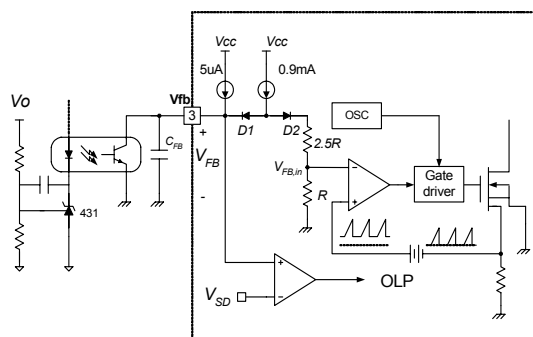

Figure 5. Pulse Width Modulation (PWM) Circuit
2. Feedback Control : The FSDM0265RNB employs current mode control, as shown in Figure 5. An opto-coupler (such as the H11A817A) and shunt regulator (such as the KA431) are typically used to implement the feedback network. Comparing the feedback voltage with the voltage across the R_{sense} resistor plus an offset voltage makes it possible to control the switching duty cycle. When the KA431 reference pin voltage exceeds the internal reference voltage of 2.5V, the optocoupler LED current increases, the feedback voltage V_{fb} is pulled down and it reduces the duty cycle. This event typically happens when the input voltage is increased or the output load is decreased.
4.3 Over Voltage Protection (OVP) : In the event of a malfunction in the secondary side feedback circuit, or an open feedback loop caused by a soldering defect, the current through the opto-coupler transistor becomes almost zero (refer to Figure 5). Then, V_{FB} climbs up in a similar manner to the over load situation, forcing the preset maximum current to be supplied to the SMPS until the over load protection is activated. Because excess energy is provided to the output, the output voltage may exceed the rated voltage before the over load protection is activated, resulting in the breakdown of the devices in the secondary side. In order to prevent this situation, an over voltage protection (OVP) circuit is employed. In general, V_{cc} is proportional to the output voltage and the FPS uses V_{cc} instead of directly monitoring the output voltage. If V_{CC} exceeds 19V, OVP circuit is activated resulting in termination of the switching operation. In order to avoid undesired activation of OVP during normal operation, V_{cc} should be properly designed to be below 19V.